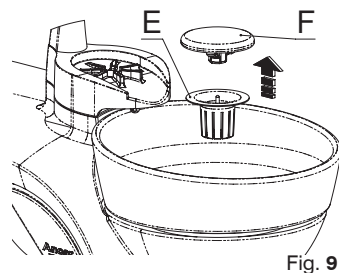

Fig. 9
To avoid splashes and the passing of solids the spittoon is fitted with filter (E) and cover piece (F) located in the drain of the spittoon (fig. 9).